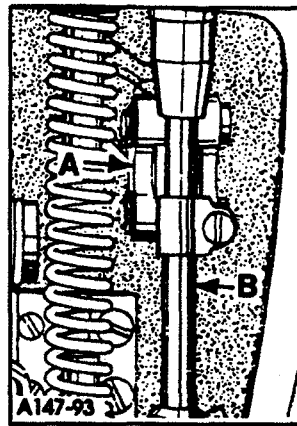

FIG. 2
Remove head cover, clean out lint, then directly oil needle bar link (A, Fig. 2) and needle bar (B). Replace head cover and fill machine with oil to proper level. Run machine at between 200 and 500 R.P.M. to ensure proper lubrication of components preventing any damage which may occur from lack of oil distribution.